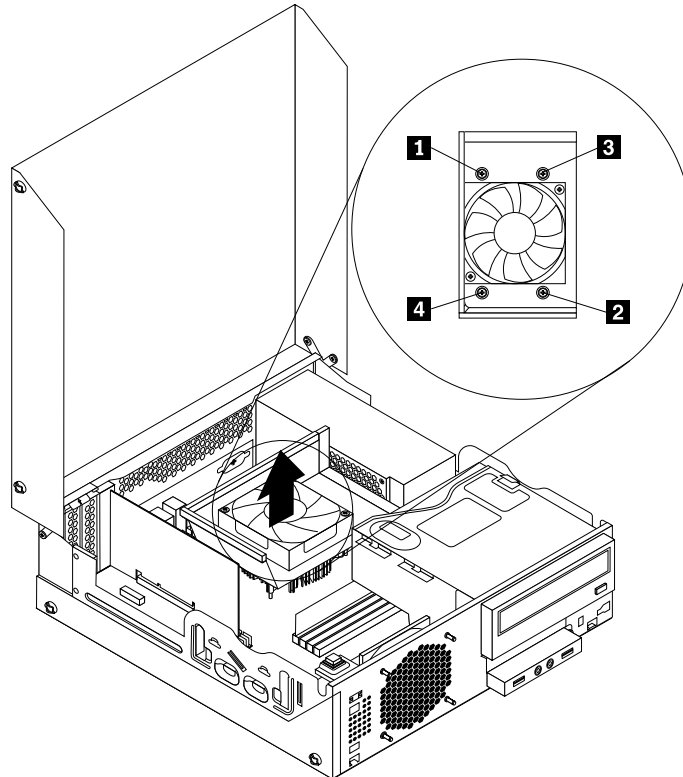

Figure 31. Screws that secure the heat sink and fan assembly
- Follow this sequence to install the four screws to secure the new heat sink and fan assembly, as shown in Figure 31 “Screws that secure the heat sink and fan assembly” on page 46: